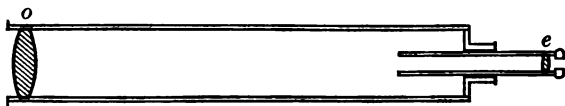

FIG. 168
**238. The Refracting Telescope.** — This consists of two lenses mounted at the ends of a long tube. The larger lens (*o*, Fig. 168) is called the *objective*, being nearer the object; the smaller, *e*, is the *eyepiece*, being nearer the eye. (An eyepiece may contain more than one lens.) *The objective serves to collect a great number of rays and*